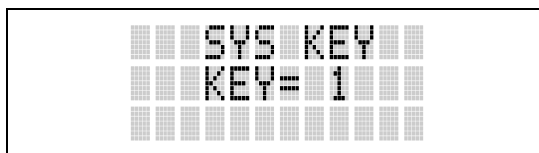
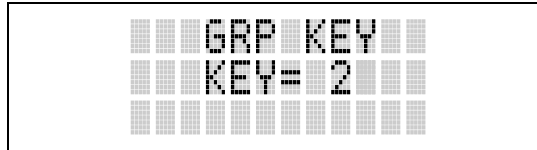

Figure 10-9: System Encryption Key Display
Figure 10-10: Group/Channel Encryption Key Display
6. Use the **[▲]** or **[▼]** button to toggle between displaying the system key (Figure 10-9) or the group/channel key (Figure 10-10).